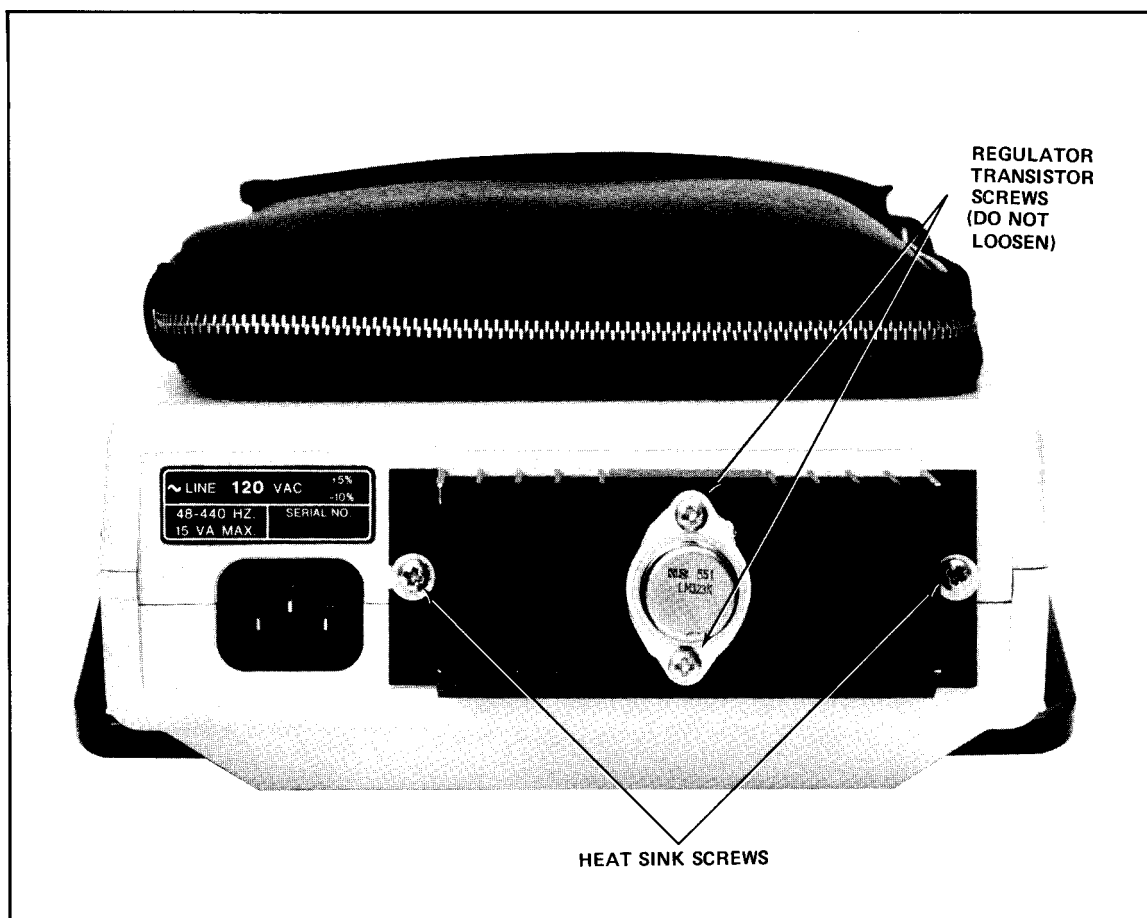

Figure 8-2. Heat Sink Screws Locations
3. On the back panel of the 5004A loosen the two screws at the ends of the heat sink three or four turns (see *Figure 8-2*).
DO NOT loosen the transistor retaining screws (see *Figure 8-2*).